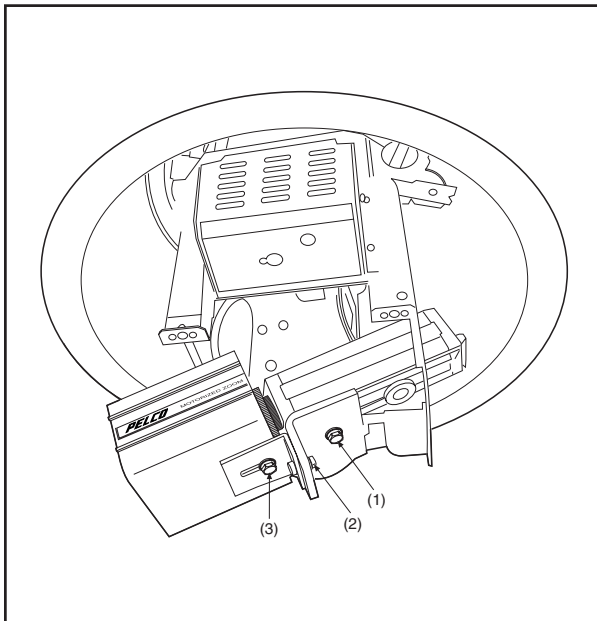

Figure 8. Attaching Camera/Lens to Tilt Table
1. Loosen the 1/4-20 lens support fastener and slide lens support down (see Figure 8).
2. Place camera/lens atop the tilt table and thread the provided 1/4-20 x 1/2-inch fastener through the tilt table into the camera (see Figure 8). Snug the fastener at this time to allow for camera/lens repositioning.